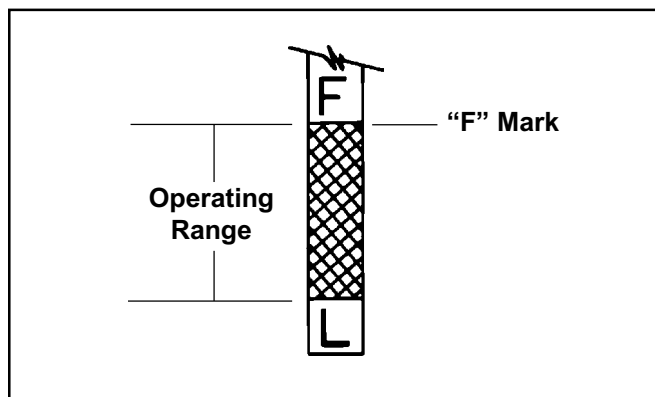

Figure 5. Oil Level Dipstick.
4. Remove the dipstick and check the level. The oil level should be up to, but not over, the "F" mark on the dipstick. See Figure 5.